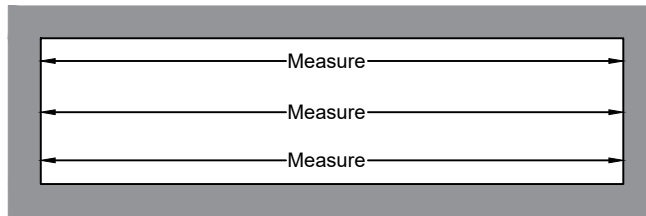

Fig.1.2
- B. Measure the width of the opening at the top, middle, and bottom. Select the smallest of these dimensions and subtract the shim gap width per approved shop drawings (recommended 1/4" shim at jambs). **SEE Fig.1.2.**